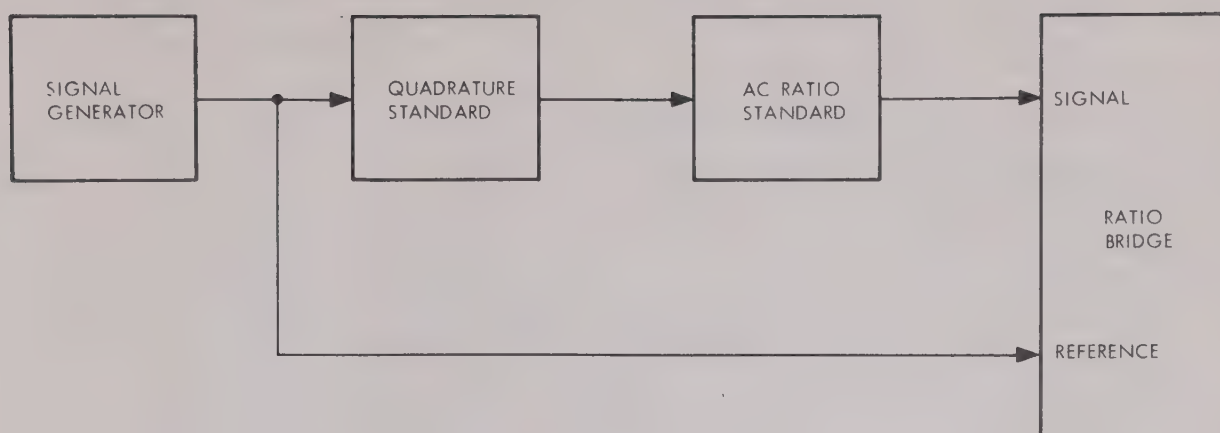

Figure 4-2. 90 Degree Adjustment
- a. Interconnect equipment as shown in figure 4-2.